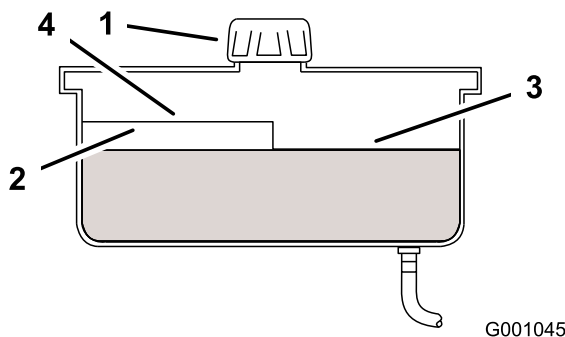

Figure 50
4. Clean area around cap and filler neck of hydraulic tank (Figure 50).
5. Remove cap from filler neck. Look inside to check if there is fluid in the reservoir. (Figure 50).
Note: When the fluid is warm, the fluid level is at the top of the hot level of the baffle (Figure 50).